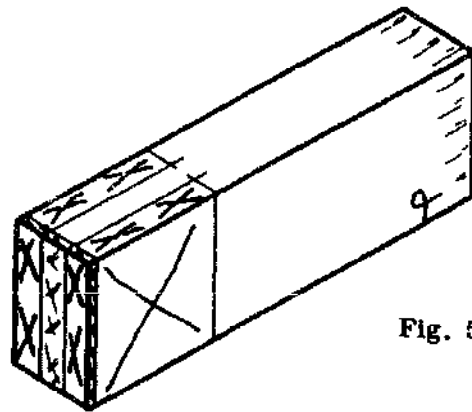

Fig. 5
- Set a marking gauge to the size of the tenon (one-third of the width of the piece) and mark around the end of the tenon (Fig. 5). Mark the waste.